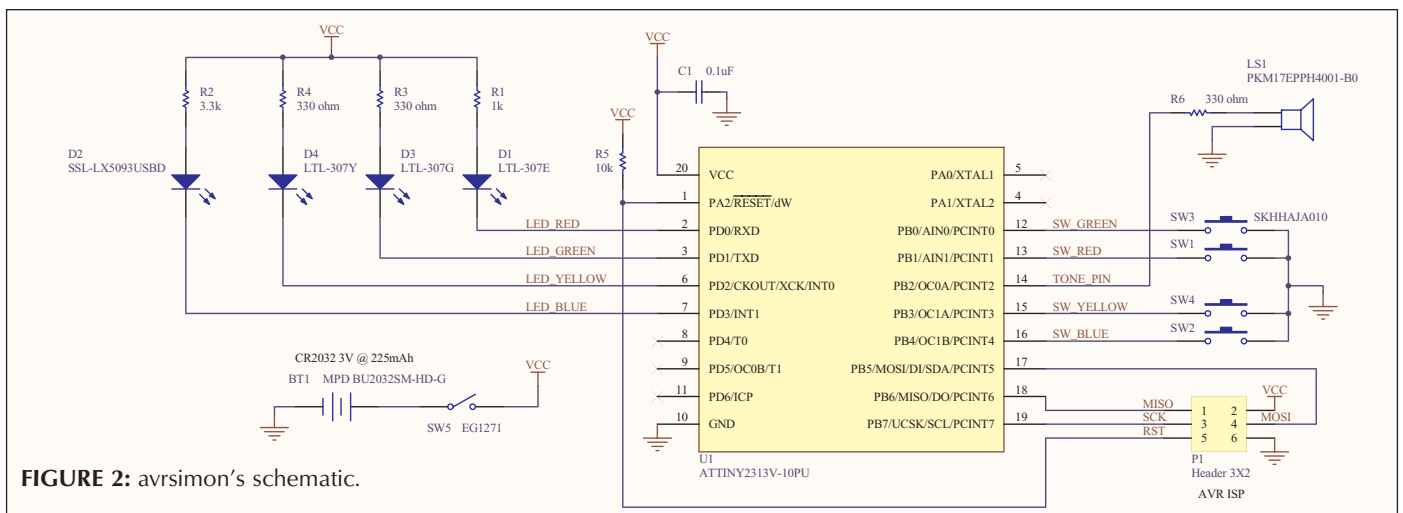

FIGURE 2: avrsimon's schematic.
■ FIGURE 2. Meter with resistor.
like these to test components as shown in **Figure 2**. Measurements can be made on resistors,
buzzer for playing sounds. Refer to the schematic (Figure 2) and bill of materials (Table 1) for specific component information.